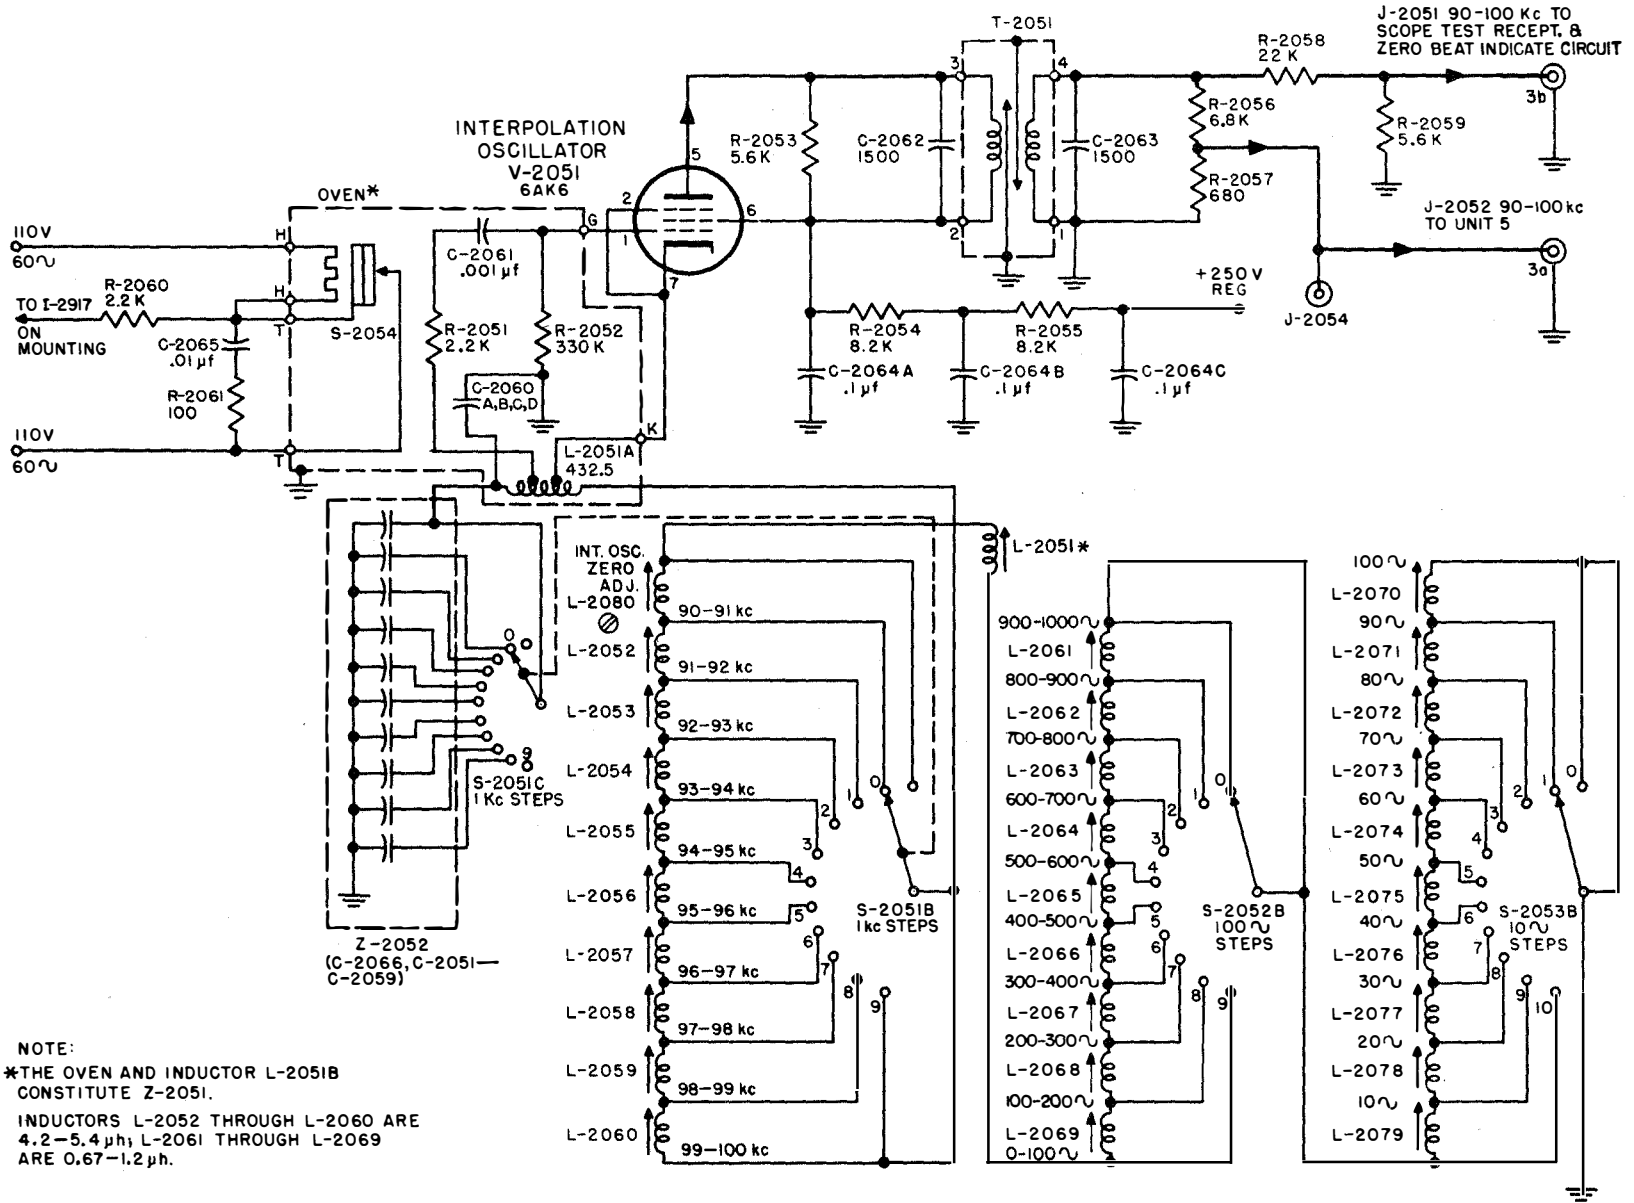

Figure 2-10. RFO Unit 3, Interpolation Oscillator V-2051, Simplified Schematic
(1) OSCILLATOR V-2051.—The oscillator is an electron-coupled Hartley circuit (figure 2-10). The main tank circuit comprising C-2060, L-2051A and associated